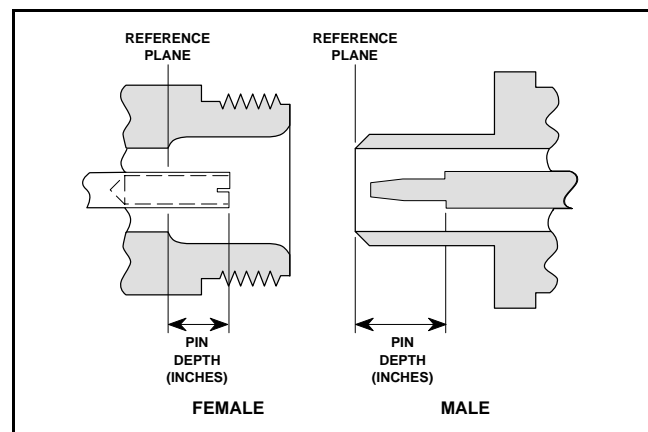
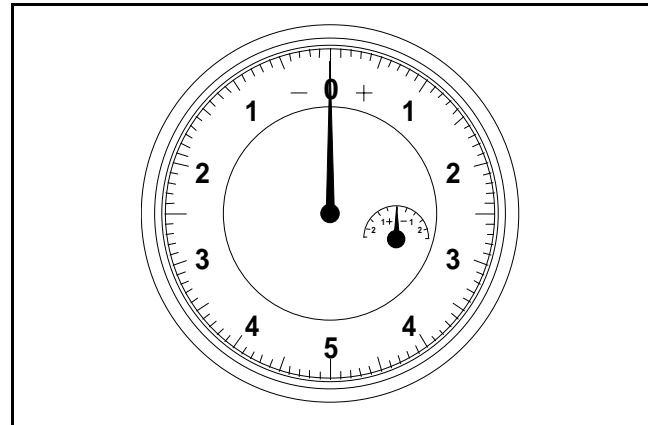

Figure 2. N Connector Pin Depth Definition
Figure 3. Pin Depth Gauge
- a. Beware of Destructive Pin Depth on Mating Connectors.** Before mating, measure the pin depth (Figure 2) of the device that will mate with the SWR Autotester or bridge, using a ANRITSU Pin Depth Gauge (Figure 3) or equivalent. Based on SWR Autotesters and bridges returned for repair, destructive pin depth of mating connectors is the major cause of failure in the field. (A destructive pin depth has a center pin that is too long in respect to the connector's reference plane.) When the SWR Autotester or bridge is mated with a connector having a destructive pin depth, damage will likely occur to the SWR Autotester or bridge.
region of the gauge (Figure 3), the center pin is too long. Mating under this condition will likely damage the SWR Autotester or bridge connector. On the other hand, if the test device connector measures out of tolerance in the “-” region, the center pin is too short. While this will not cause any damage, it will result in a poor connection and a consequent degradation in performance.